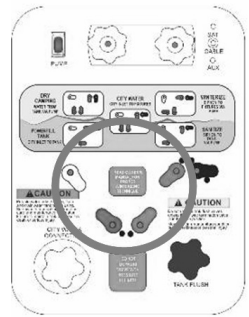

Fig 2: Set 4 valves to 45°
11. After water is drained from the lines, turn the RED, BLUE, GREEN & WHITE valves so they are at 45 degrees as shown (Fig. 2).